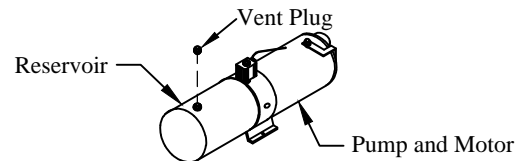

Figure 14: Vent plug.
**7. Install** the vent plug provided into the pump reservoir (Figure 14).